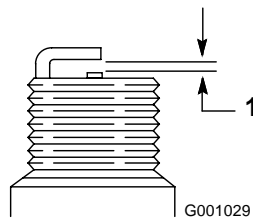

Figure 53
- Set the gap between the electrodes on the spark plug at 0.030 inch (0.76 mm) (Figure 53).